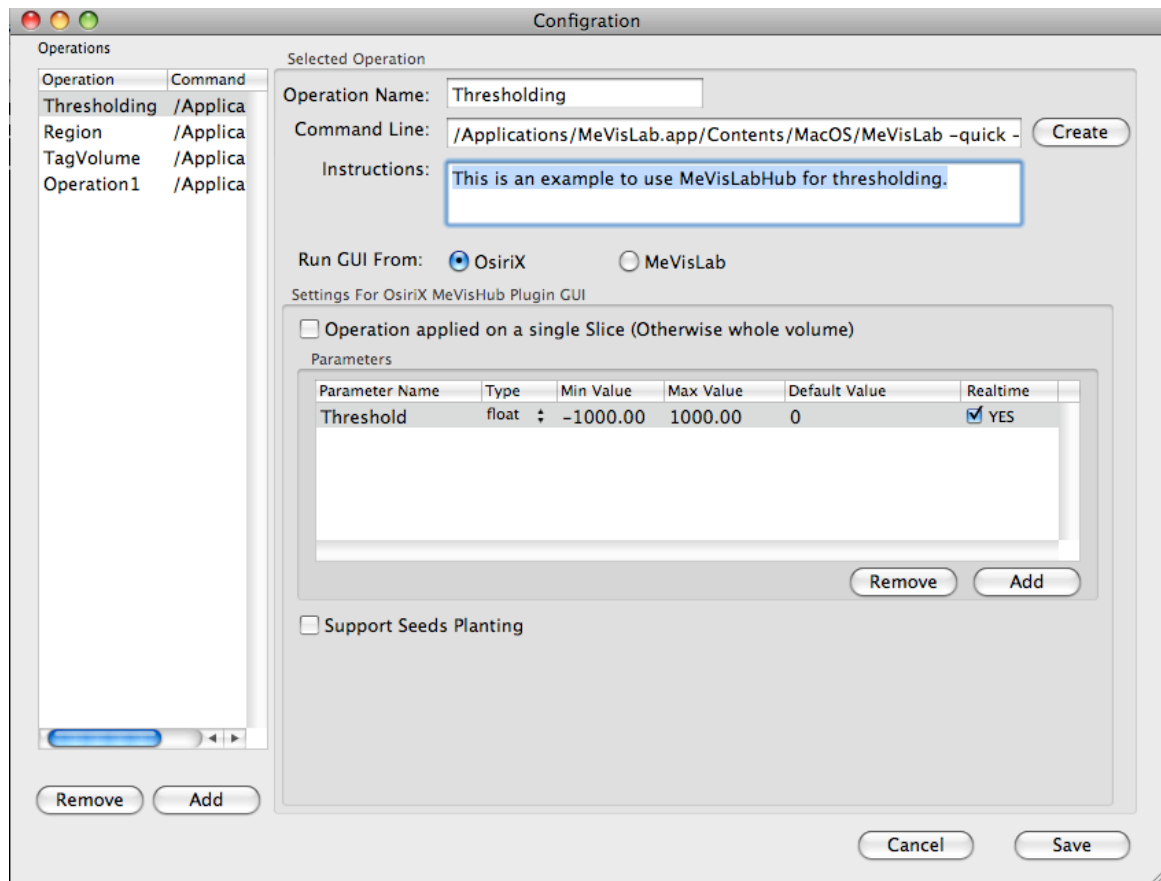

Figure 4. the configuration of MeVisLabHub.
- c. Choose Run GUI From OsiriX and add one parameter named “Threshold” and check Realtime option which means updates the result in real time. (Figure 4)